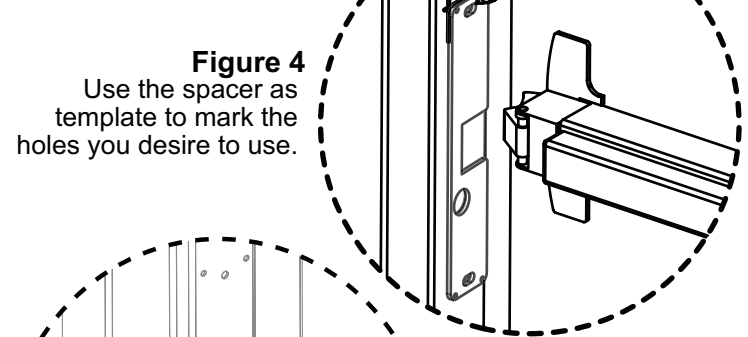

**Figure 2**
2. Using the marks you just made as your guide, position the 4800 over the mark on the frame. Make sure that the Auxiliary latch rides up properly over the 4800's edge, and is engaged, and that the door is in the fully closed position. See Figure 2